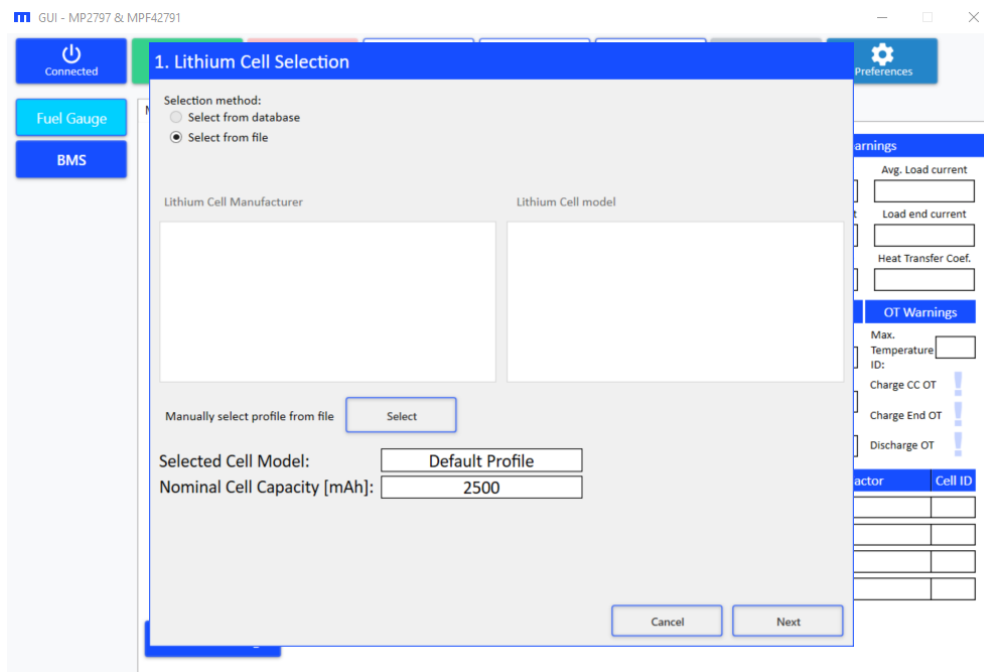

Figure 36: Configuration Wizard 1 – Cell Profile Selection
3. The wizard to select the cell profile should open. To use a new profile, click “Select” and use the file explorer to select a valid “.xml” file containing a cell profile (see Figure 36).
5. Click “Next” after making the cell selection. The Battery Pack Configuration window should open (see Figure 36).